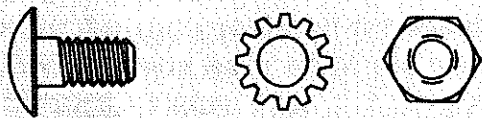

Fig. 16 - Truss Head Bolt, Lockwasher, Hex Nut
3. Most parts of your radial arm saw will be fastened together using truss head bolts, lockwashers, and hex nuts of the sizes shown. (Figure 16) When different sizes are needed, the instructions will include a sketch to help you locate the correct size.